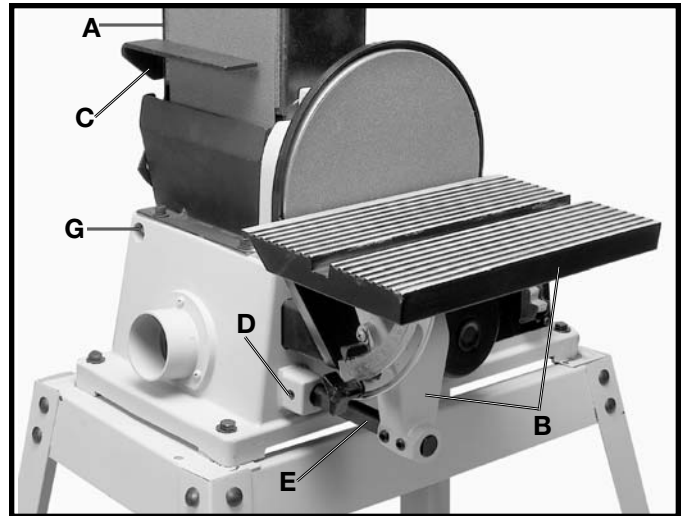
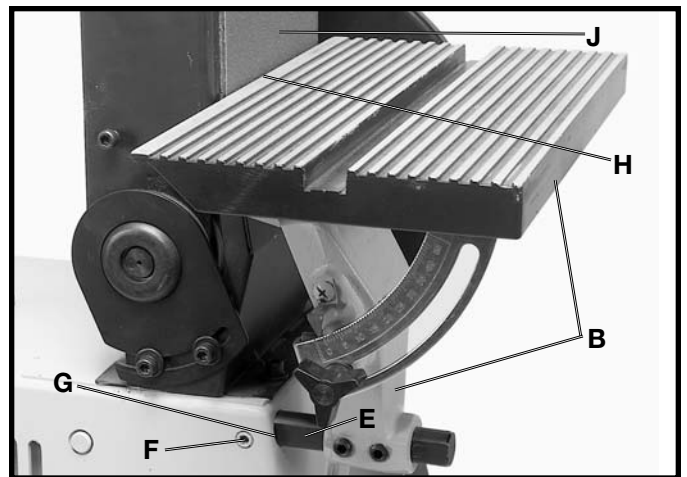

Fig. 33
Fig. 34
When the sanding arm (A) Fig. 33, is in the vertical position, the complete table assembly (B) can be moved from the disc unit to the belt unit as follows:
1. Remove backstop (C) Fig. 33, from the machine.
2. Loosen screw (D) Fig. 33, and carefully remove support bar (E) and table assembly (B) from the disc unit.
3. Loosen set screw (F) Fig. 34, and insert support bar (E) and table assembly (B) into hole (G) Figs. 33 & 34, on belt unit. Tighten set screw (F) to hold support bar and table assembly in position.
⚠ WARNING: THE TABLE EDGE (H) FIG. 34, MUST BE POSITIONED A MAXIMUM OF 1/16" AWAY FROM SANDING BELT (J) TO AVOID TRAPPING THE WORK OR FINGERS BETWEEN THE TABLE AND SANDING BELT.